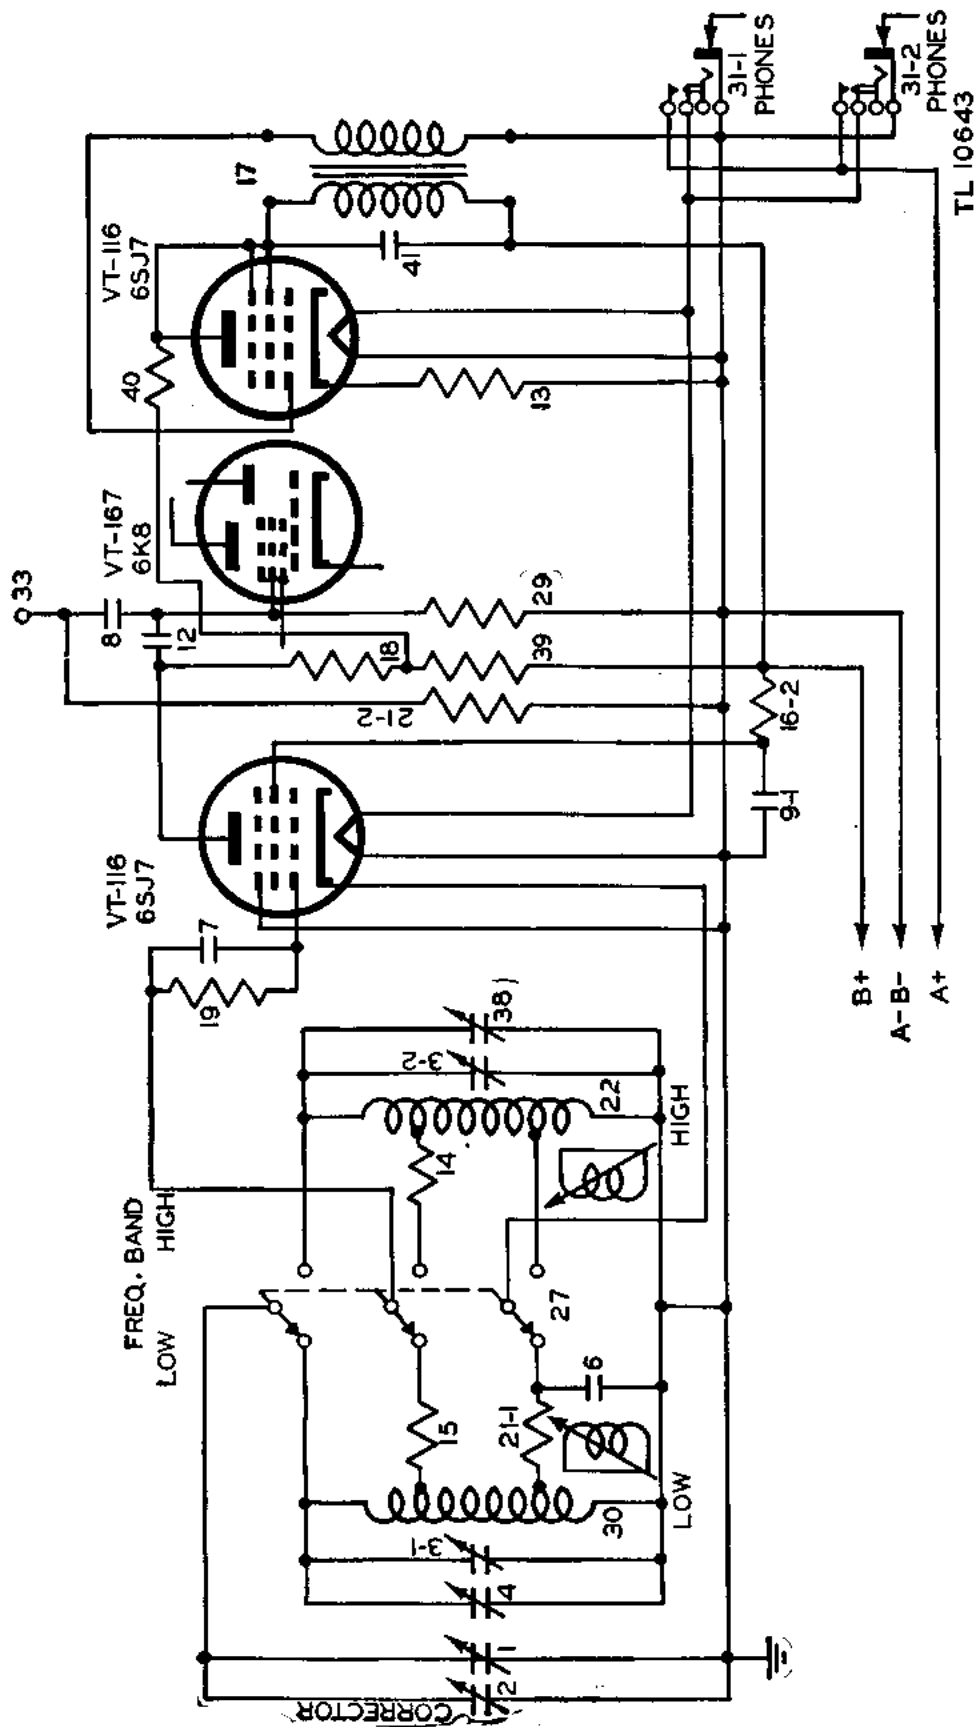

Figure 92. Frequency Meter BC-221-AK, functional diagram, variable frequency oscillator and audio-modulator circuits.
Tube VT-116 (6SJ7) is used in an electron coupled circuit as a variable frequency oscillator. (See fig. 92.)
a. COILS. The two inductors 22 and 30, in the tuned circuits, are wound upon ceramic forms and the LOW frequency coil 30 is coated with a special wax to eliminate the influence of changing atmospheric conditions on the stability of the meter. The active terminals of these coils are connected across the terminals of the main tuning capacitor 1 by means of the band selector (FREQ. BAND LOW-HIGH) switch 27. Each coil and the tuning capacitor, together with other capacitors mentioned below, constitute the resonant circuit that determines the output frequency. The correct operating bias on the control grid of the oscillator tube is provided by the capacitor and resistor combination 7 and 19 which connects to a tap on either coil through the band selector switch 27. The frequency of oscillation is made relatively independent of variations in tube characteristics when the grid connection is tapped down an appreciable distance from the high-potential end of the coil. The resistors 14 and 15, which carry little current, are connected in series with the grid circuit taps on the coils, and stabilize the operation of the oscillator circuit by suppressing undesirable oscillations. The second coil tap, located near the grounded end of each coil, and connected to the cathode of the oscillator tube through another set of contacts on switch 27, serves to control the amount of feedback in the oscillator circuit. The resistor 21-1 in series with this connection on coil 30 applies additional cathode bias to the grid of the oscillator tube. This cathode bias resistor is bypassed to ground by capacitor 6. The small short-circuited windings shown at the end of each coil in figure 92 are inductive temperature-compensating devices installed inside of the coil forms to compensate for variations in inductance brought about by temperature changes. Resistors 18 and 39 constitute the oscillator tube plate circuit load. (This double resistor arrangement is used in order that the r-f output of the variable frequency oscillator may be modulated when the operation switch 28 is in the MODULATE position. See paragraph 296.) The voltage developed across these load resistors is coupled to detector-converter Tube VT-167 through capacitor 12, or to the antenna through capacitors 12 and 8 in series. Resistor 16-2 is the screen grid dropping resistor, and part 9-1 is the screen grid bypass capacitor to ground.
No. 3 grid through the coupling capacitor 8. As a result of these couplings to the control grid, the detector mixes the variable frequency oscillator output with the fundamental and successive harmonics of the crystal oscillator when the operation switch 28 is in the CHECK position, and with the radio transmitter frequency to be measured when the switch is in the OPERATE position. By reference to figures 92 and 93, it can be seen that the antenna post 33 is also coupled to the variable frequency oscillator out-
A functional diagram of the modulator and variable frequency oscillator circuits, together with the connection of the variable frequency oscillator to the detector tube, is shown in figure 92. The audio oscillator-modulator unit provides a source of audio-frequency voltage for modulating the r-f output signal from the variable frequency oscillator. When the operation switch 28 is in the MODULATE position, the circuits are so arranged that energy is fed back to the grid circuit of audio Tube VT-116 from the secondary of the audio-output transformer 17. The primary winding in the plate circuit of the audio tube, coupled to the secondary winding, completes the oscillating circuit. The capacitor 41, across the primary winding, together with the inductance of the primary winding, constitutes the resonant circuit that determines the